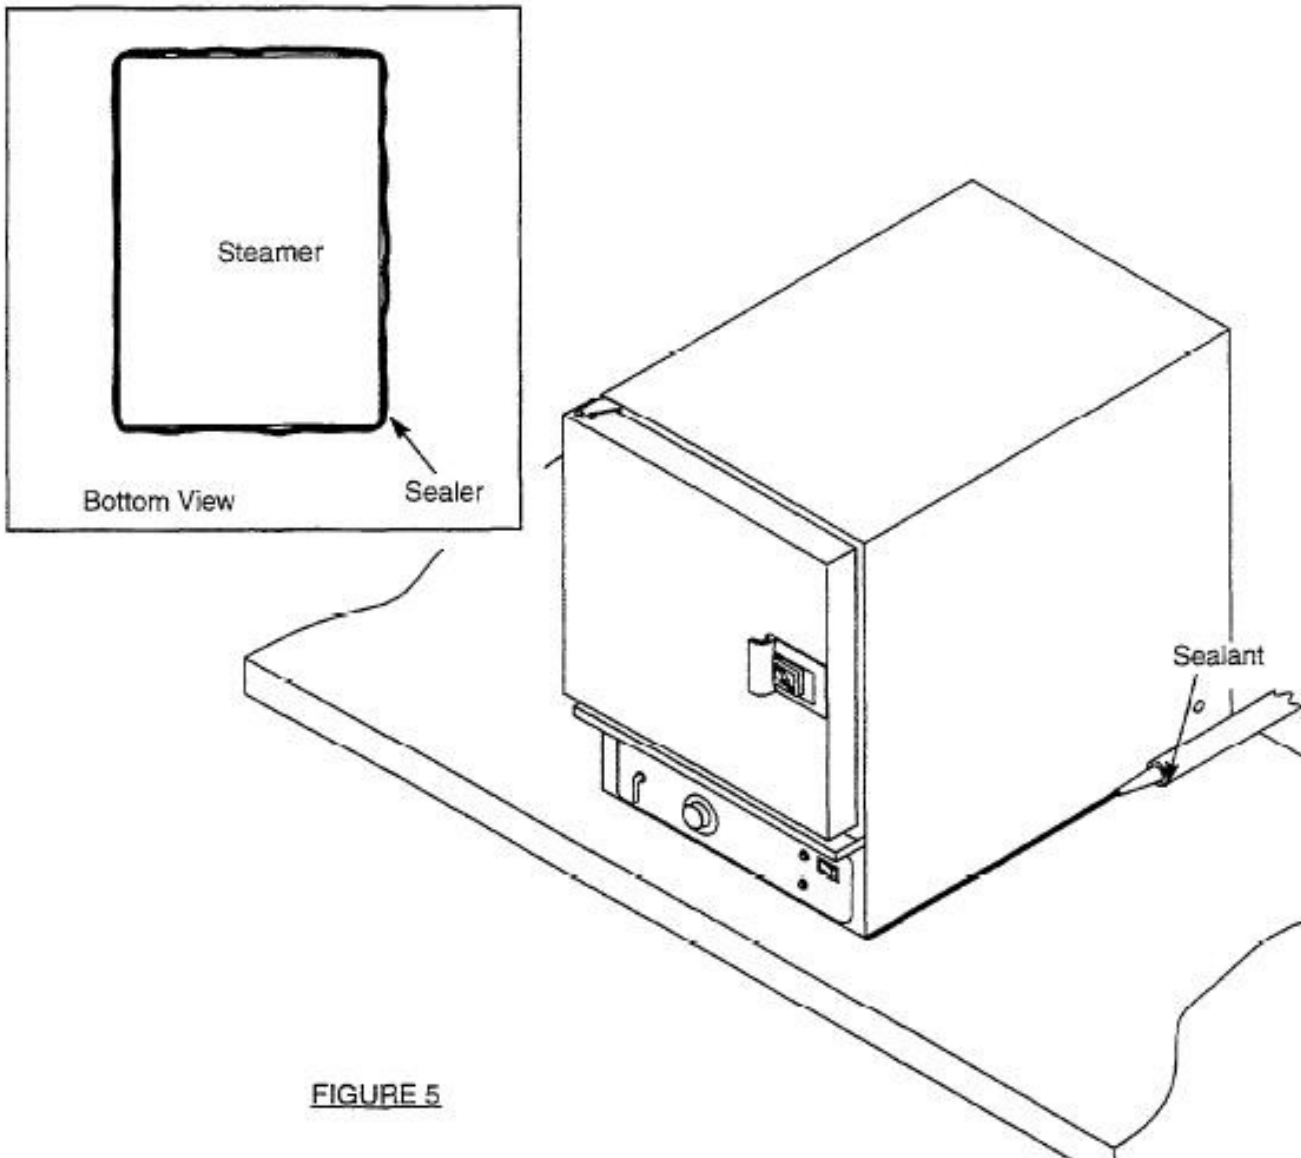

**FIGURE 4**
3. If unit is to be installed on legs, locate legs and install as shown on drawing. (See Figure 4.)